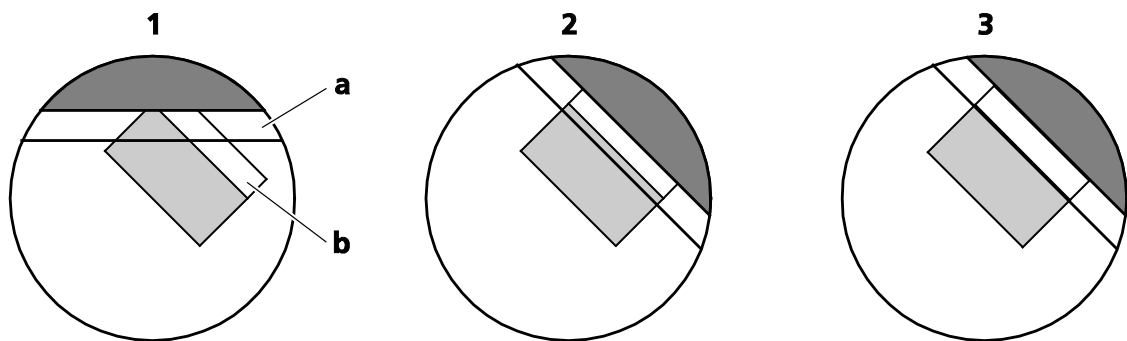

Fig. 4-11 Aligning of the Objective Zone Plate and the iHM Diaphragm
- Adjust the eye lens of the auxiliary microscope to bring the zone plate of the objective (Fig. 4-11/1a) and the iHMC diaphragm (Fig. 4-11/1b) in focus.
- Turn the ring of the iHMC objective until the zone plate is aligned parallel to iHMC diaphragm. (See Fig. 4-11/2.)
- Using the two centering keys, move the iHMC diaphragm until area **a** of the zone plate and area **b** of the iHMC diaphragm line up completely in middle position if possible (Fig. 4-11/3). In the example shown, the position of the contrast elements may appear rotated in relation to Fig. 4-11, depending on the relief impression orientation chosen.